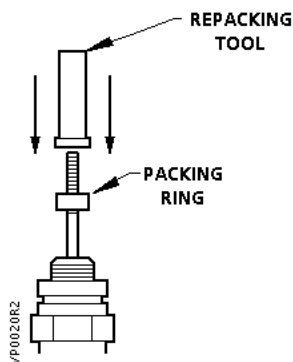

Figure 4. Using the Repacking Tool.
3. Slide the new packing ring over the stem and push it to the bottom of the packing chamber with the repacking tool (included in the kit). See *Figure 4*.